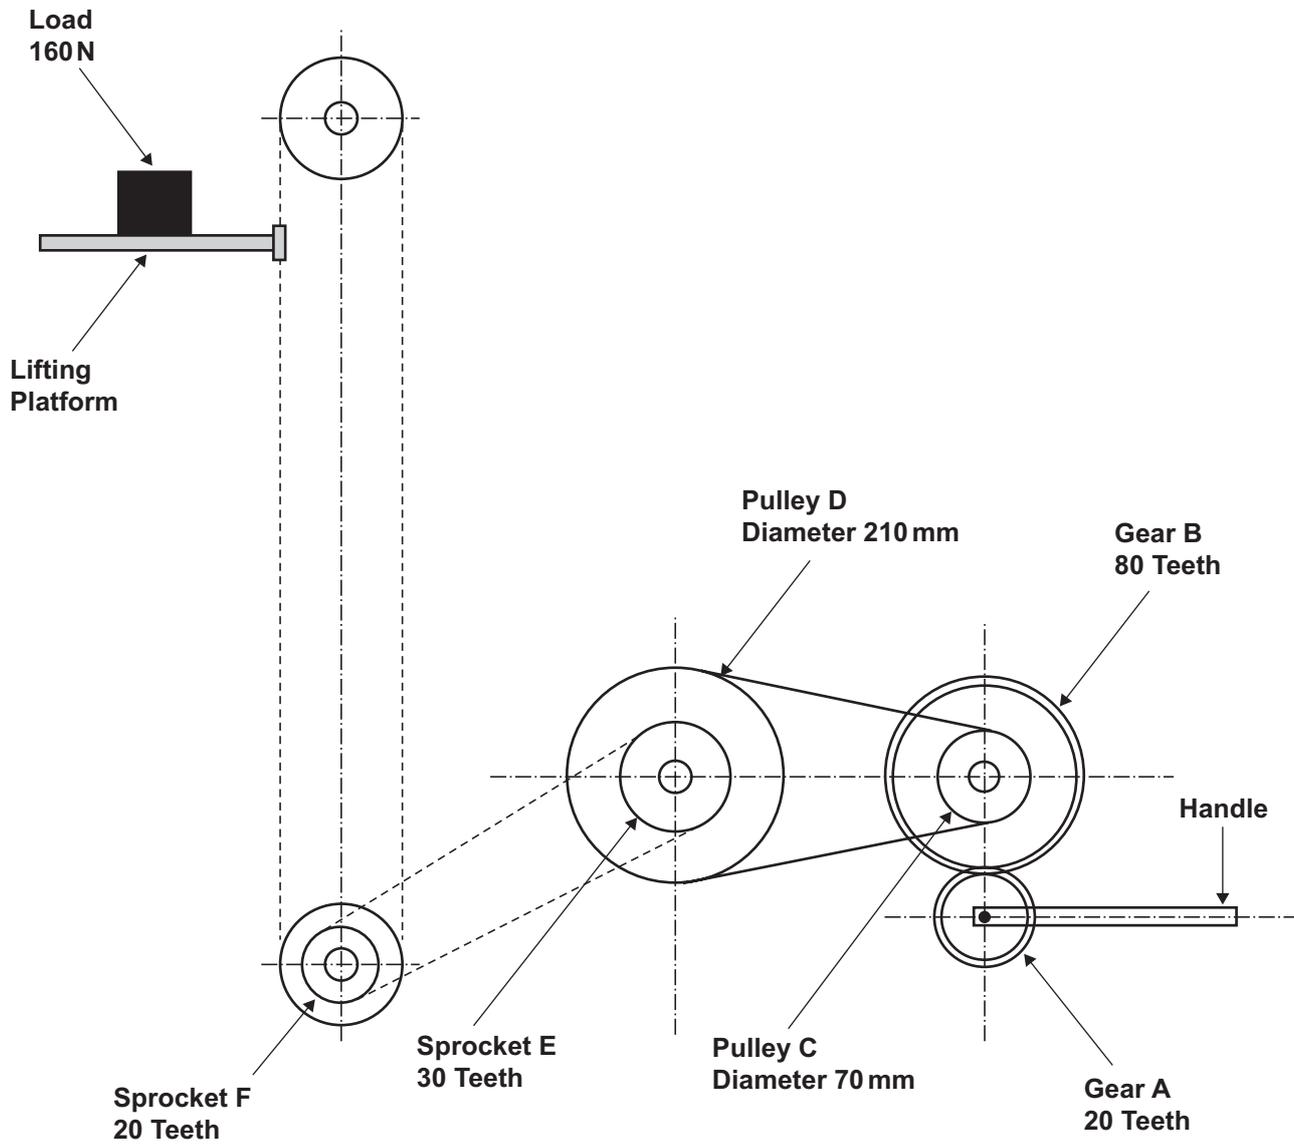

Fig. 11
- 11 (a) Fig. 11** shows part of a prototype lifting mechanism.